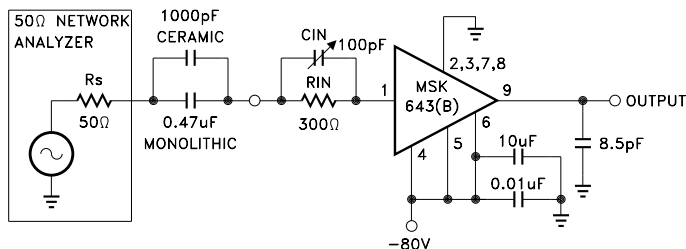

FIGURE 1
- ①  $R_{IN} = 300\Omega$ ,  $C_{IN} = 100pF$ ,  $C_{LOAD} = 8.5pF$ ,  $R_L = \infty$ , unless otherwise specified (See Figure 1).
- ② Guaranteed by design but not tested. Typical parameters are representative of actual device performance but are for reference only.
- ③ Industrial grade devices shall be tested to subgroups 1 and 4 unless otherwise specified.
- ④ Military grade devices ('G' suffix) shall be 100% tested to subgroups 1,2,3 and 4.
- ⑤ Subgroup 5 and 6 testing available upon request.
- ⑥ Subgroup 1,4  $T_A = T_C = +25^\circ C$
The signal source in Figure 1 can be either a fast pulse generator or a network analyzer as long as the output impedance is 50 ohms. The DC level of the input should be -1.55V and all cables should be kept as short as possible. Since total load capacitance should be kept below 8.5pF, a FET probe should be used on the output.
Transimpedance amplifiers relate input current to output voltage. The MSK 643 contains an internal 4K $\Omega$  feedback resistor. This resistor converts input current to output voltage in the following manner (See Figure 1):